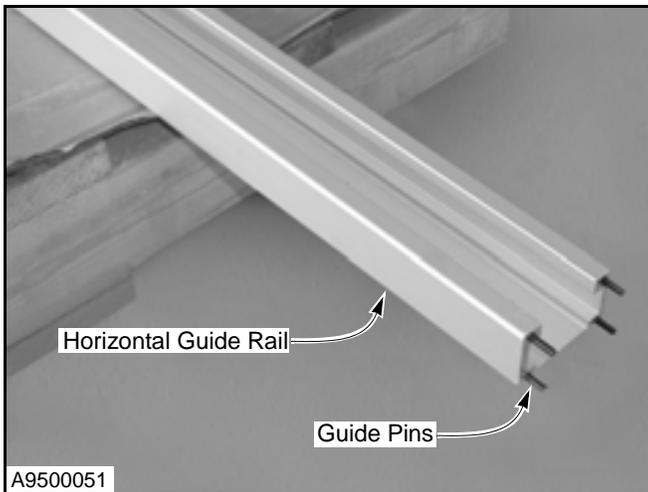

Figure 47
1. Confirm that guide pins are installed in the horizontal guide rail. (See Figure 47.)